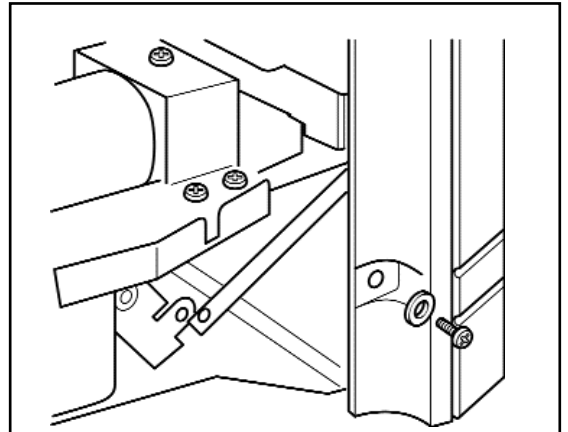

Figure 31. fascia fixing (Fascia may differ from that shown).
4. Secure the bottom of the fascia using the two machine screws and washers supplied (See figure 31).